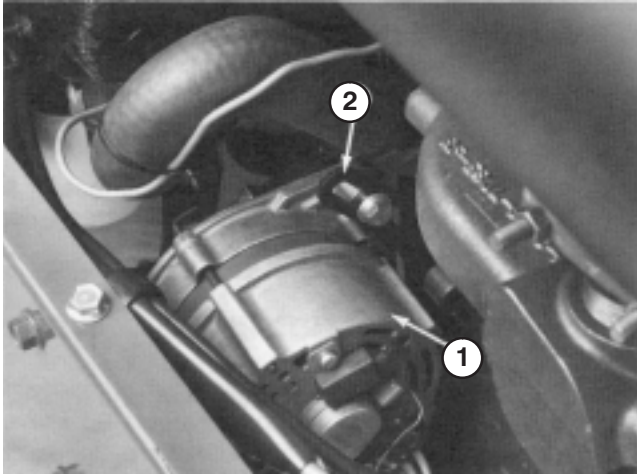

Figure 33
A new alternator belt (Fig. 33) is to be tensioned to 65 lbs. A used belt is to be tensioned to 40 lbs.
1. To adjust belt tension, loosen bolt securing brace to engine, bolt securing alternator to brace and alternator mounting bolt (Fig. 33).
2. Insert pry bar between alternator and engine and pry out on alternator (Fig. 33).
A new cooling fan belt (Fig. 33) is to be tensioned to 65 lbs. A used belt is to be tensioned to 40 lbs.